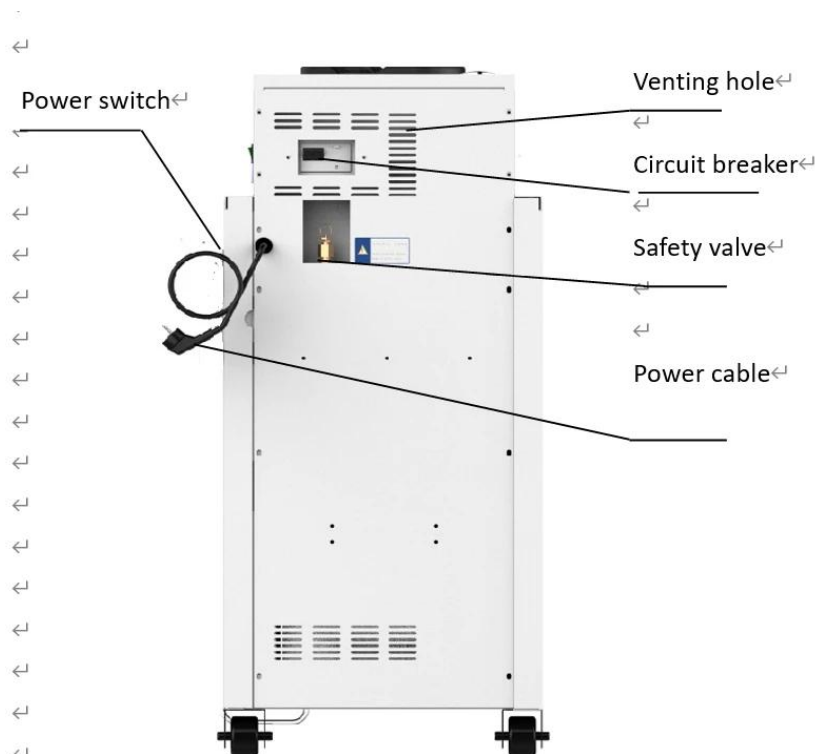

Figure 2
- Check the water level in the chamber, if you can not see water from the hole in the water plate, you should add water in, and the water should not be higher than the water plate. (fig 2)